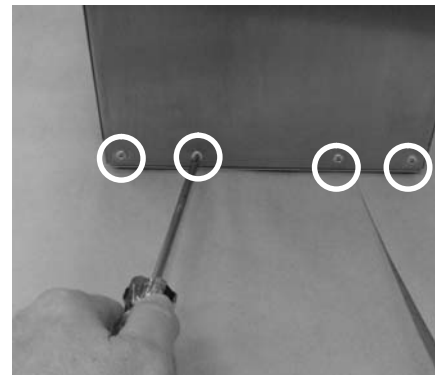

Figure 6-13 Removing Blower Plug and Screws
4. See Figure 6-13. Unplug the blower cable from the receptacle. Remove the M4 x 10 Philips screws next to the blower cable receptacle.
2. See Figure 6-13. Replace the 8 screws at the base of the lamphead (4 front and 4 rear). Install the two screws into the cover on both sides of the unicable receptacle. Tighten the screws to 1.35 N•m (12 in-lbs).